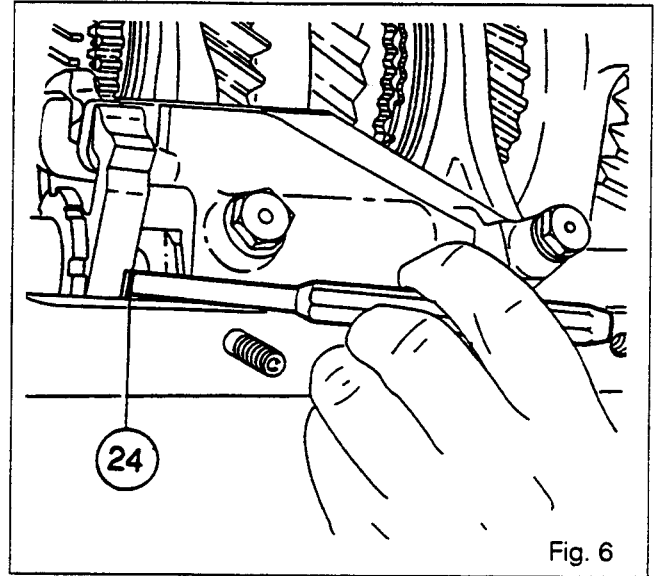

Fig. 6
7. Free the cone (24) on the guide rail (7) using a bronze drift (see Fig. 6).
8. Remove the set screw (8).
9. Remove the bearing (15), the guide rail (7) from the rear, the forks (5) and (6) and the locking assembly (25).
10. Dismantle the castellating nut (21), locking device (22), bearing (23) and cone (24).